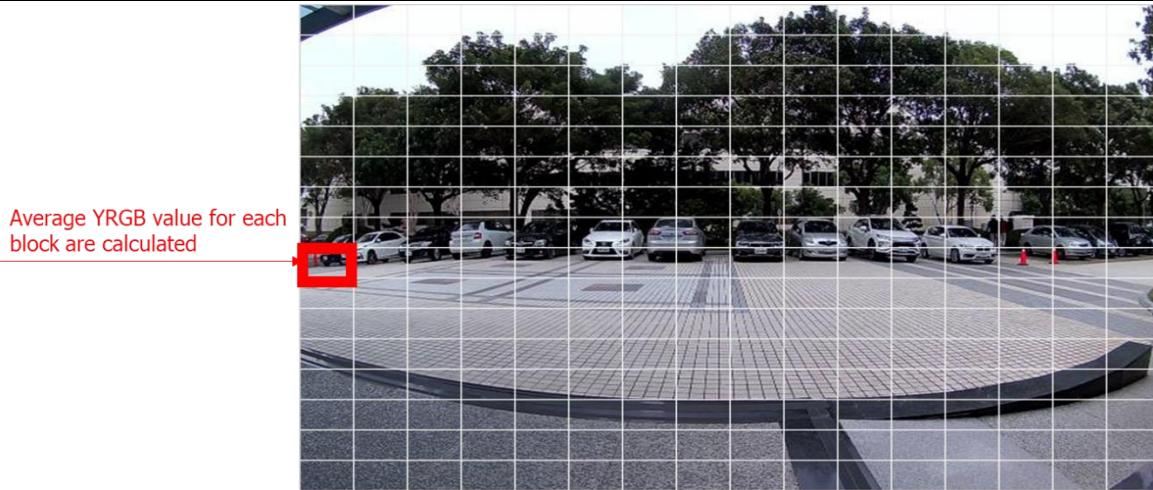

Figure 15-8 16x16 YRGB data
The 16x16 YRGB value is calculated by averaging the RGB image generated by from video channel 4. Each value corresponds to the average YRGB value for dividing the image into a 16x16 frame. As shown in Figure 15-8. Calculating motion with 16x16 YRGB data has some advantages, such as (1) saving computation time, (2) taking into account color information, (3) filtering out noise